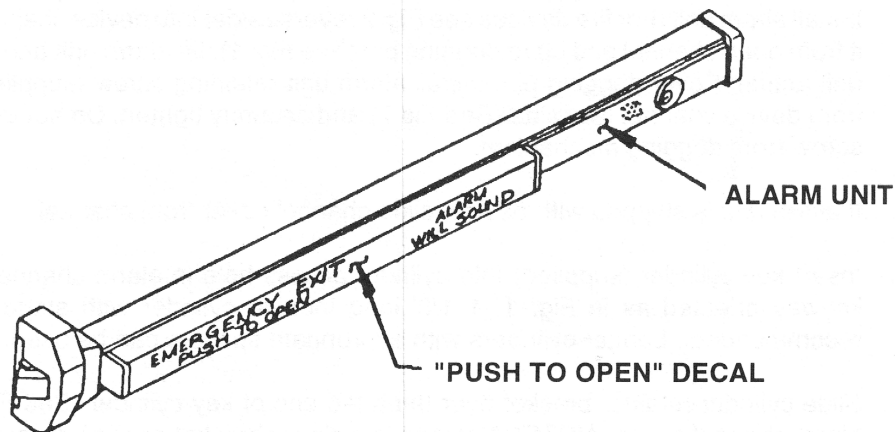

FIG. 3
15. Apply 'Push to Open' decal to push bar or on door adjacent to alarm. Make sure surface is clean for good adhesion. (See Fig. 3 - reverse side).